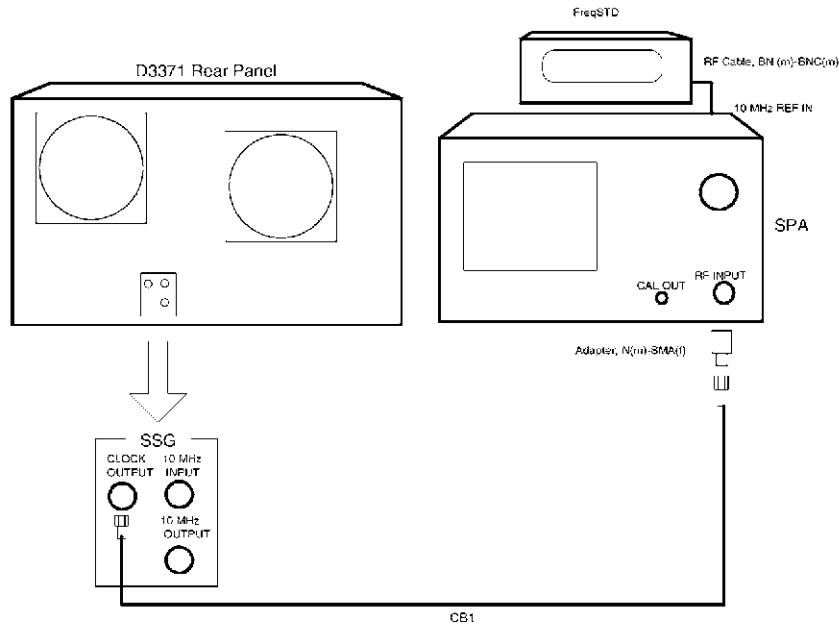

Figure 1-18 Setup of SSG Output Frequency Accuracy Test
1. Connect equipment as shown in Figure 1-18.